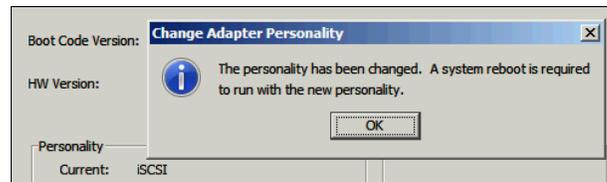

Figure 10-108 Change Adapter Personality dialog box
4. When prompted to restart your system (Figure 10-108), click **OK**.